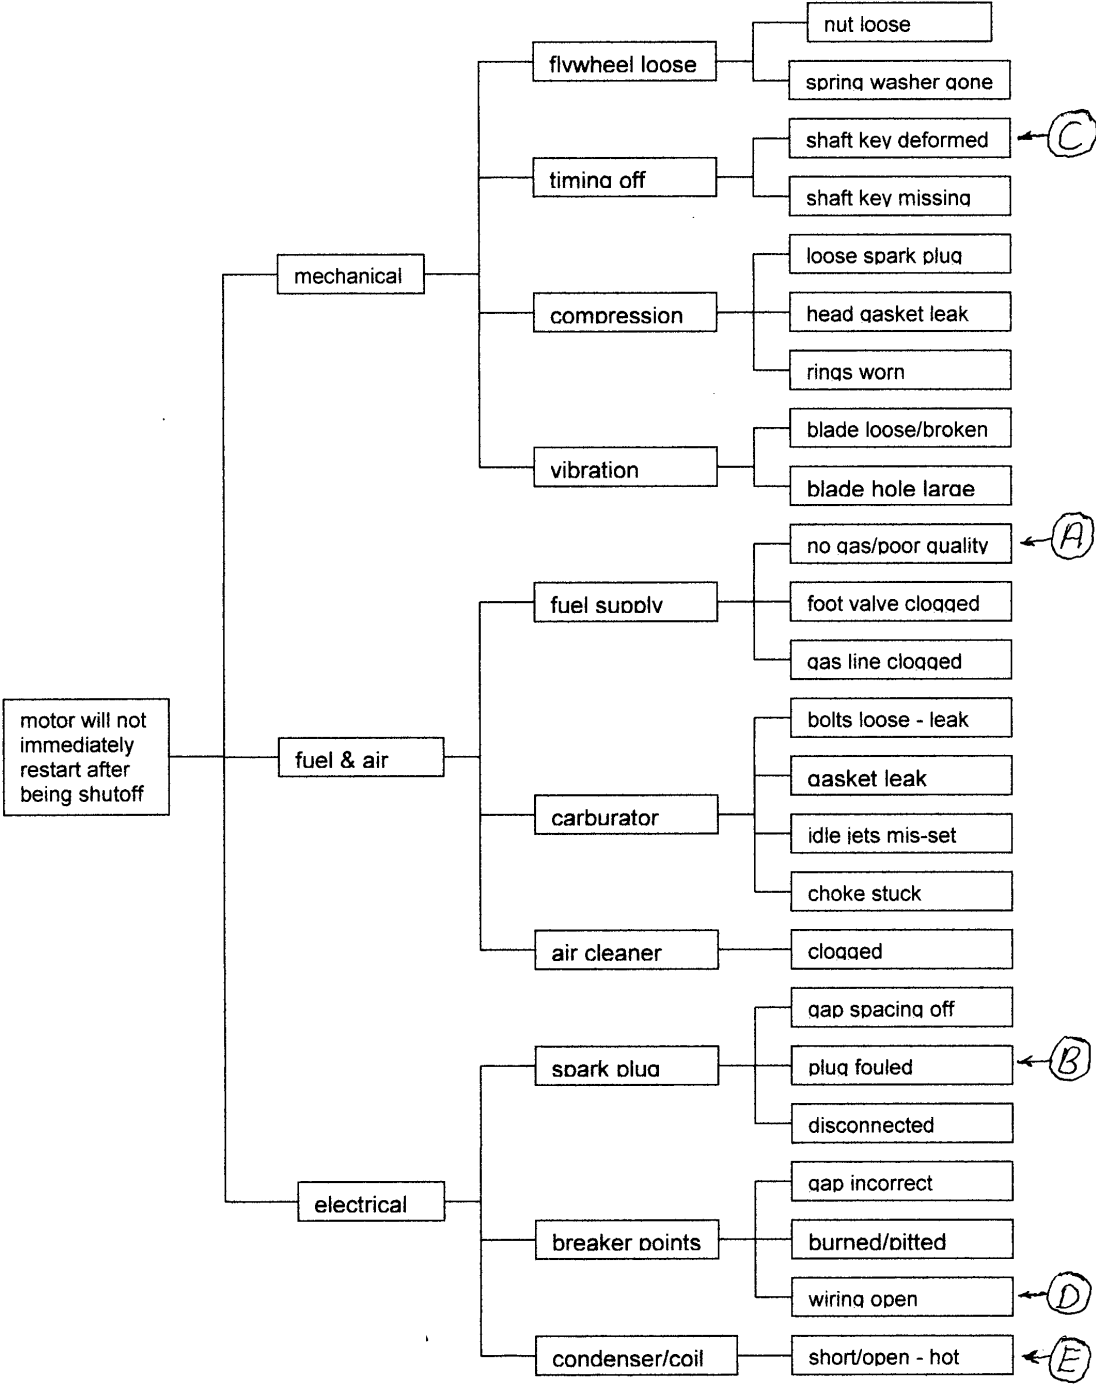

Figure 2
- Figure 2 shows a Tree diagram with the same information presented. Note that the Tree diagram affords more levels of detail and perhaps more understandable categorization.